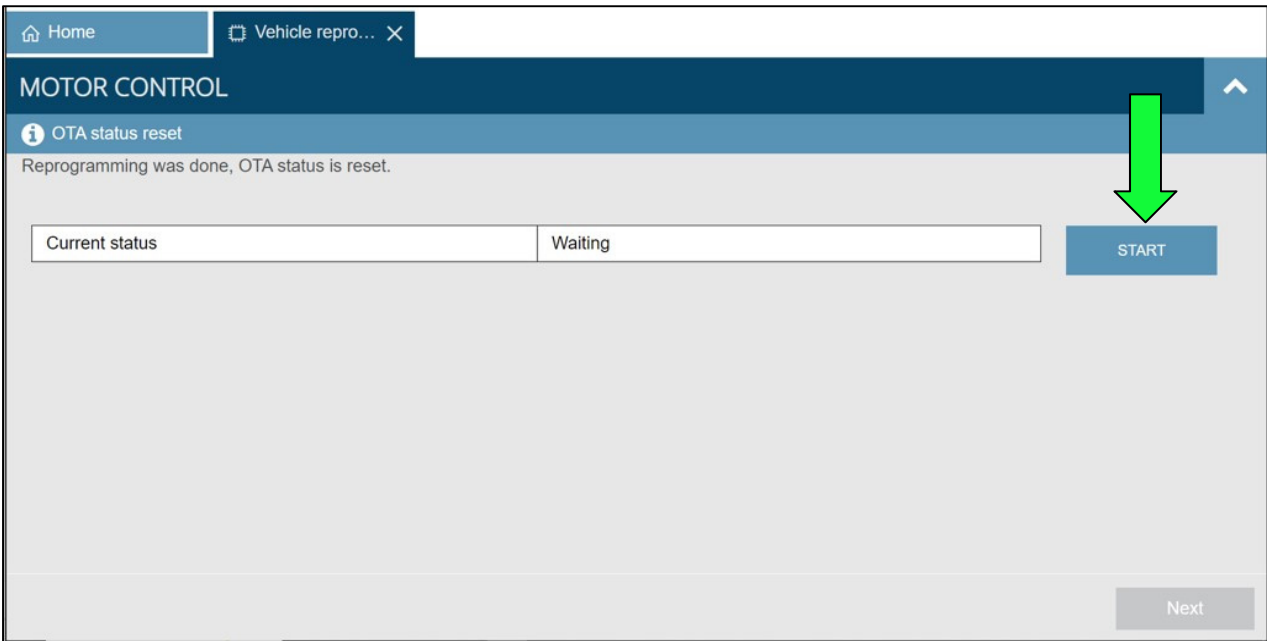

Figure 17
22. Once the screen in Figure 17 is displayed, select **START**.